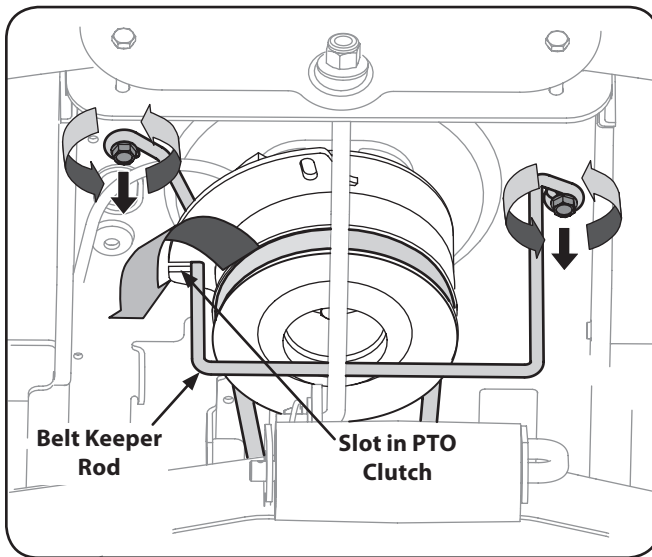

Figure 7-1
3. Locate the PTO clutch under the front of your tractor. See Figure 7-1.
4. Remove the belt guard and belt as follows Refer to Figure 7-1: